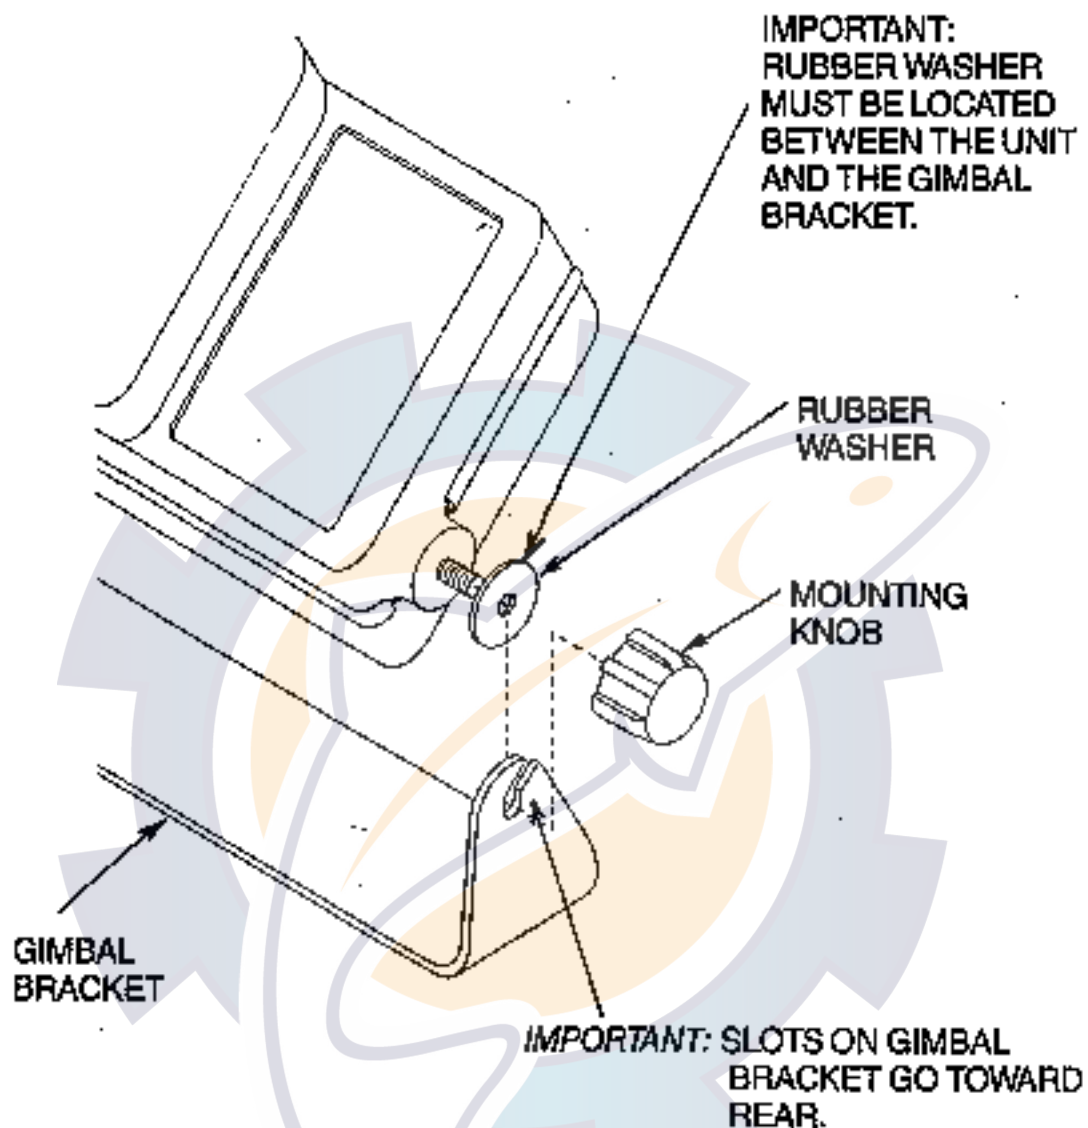

FIGURE 10
Step 7 CABLE CLAMPS - Install cable clamps as necessary by drilling a $\frac{1}{8}$ " dia. hole for the #8 screw supplied. Be sure to route the cable to the side of the bracket. The cable can be cut if it is installed in the center of the bracket. (See Figure 10). FIGURE 10